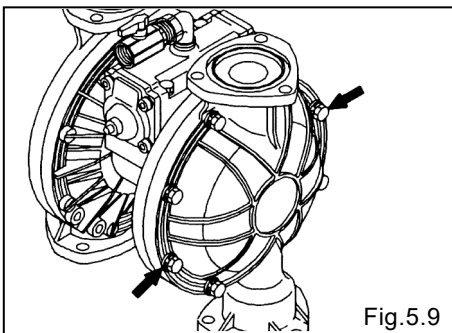

Fig.5.9
- Remove the 16 retainer bolts (24 bolts for NDP-80) to take out the out-chambers. [Fig.5.9]